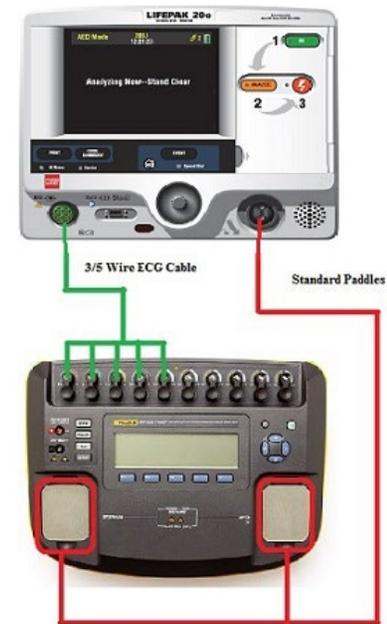

Figure 1.22: Standard Paddles Defibrillator Energy and Charge Time Test Setup
1. Establish the setup as shown in Figure 1.22.